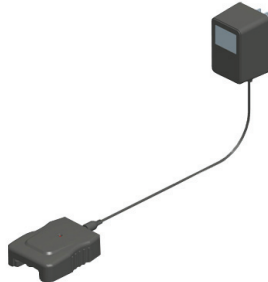

Figure 2 - Plug Charger into Base
1. Plug cord from charger into charger base. (See Figure 2)